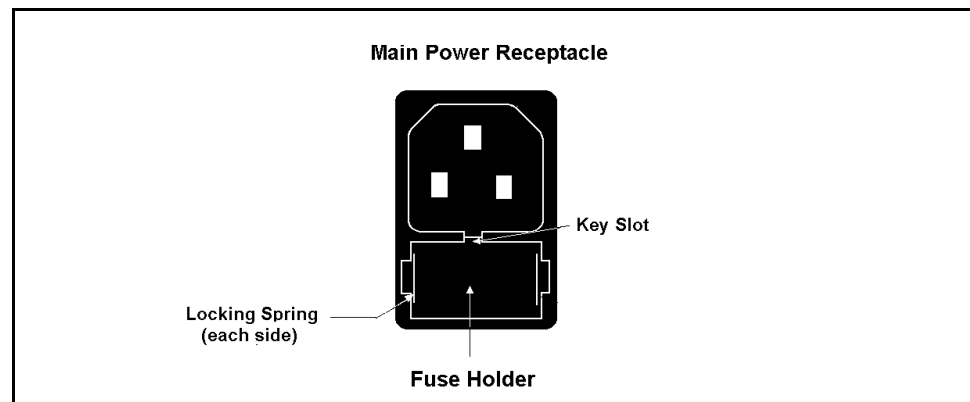

Figure 5-4. Replacing the AC Fuses
2. The fuse holder is part of the main power receptacle on the rear panel (see Figure 5-4). A recessed lock is located on each side of the fuse holder. Use a small screwdriver or your fingernail to push each lock toward the center to release it. The fuse holder will pop out approximately $\frac{1}{16}$ -inch when the lock releases. When both locks are released, pull the fuse holder straight out of its compartment.